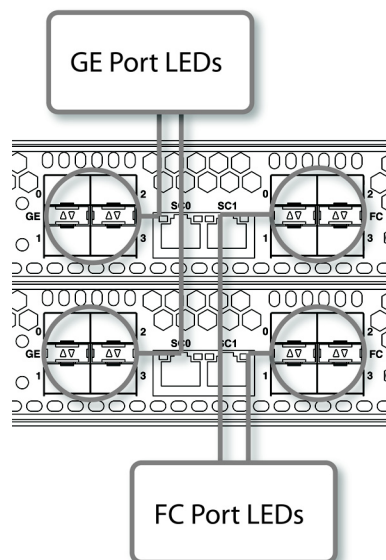

Figure 6-6 Module Status LEDs
Step 3: The GE and FC port LEDs (see Figure 6-6) on the NAS Blades should be glowing steadily green when operating normally. Table 6-2 describes the GE and FC LED states.